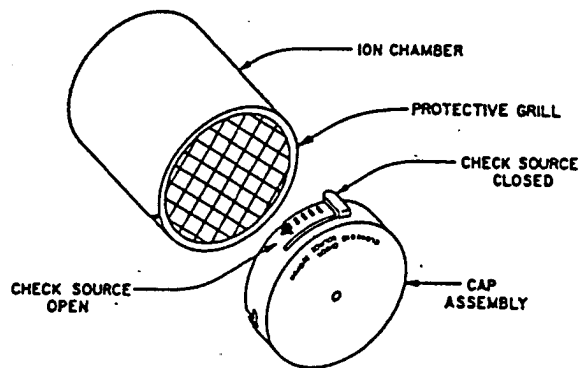

Figure 4-4. End Cap Installation and Check Source Operation.
b. Zero Adjust. Place the SM-400 in an area free of radiation. Set the Selector Switch to the 300 mR/hr position, place the check source in CLOSED position (Figure 4-4.), wait at least two minutes for warm up, rotate the Selector Switch clockwise, pausing momentarily at each step for the meter transient to subside. Observe if zero meter reading is obtained on each step. If the meter does not indicate between 0 and 0.2 mR/hr on the 3 mR/hr range, unlock the ZERO ADJ Control and adjust for a reading between 0 and 0.2 mR/hr. After adjustment is complete, lock the control.
c. Radiation Measurement Check. The Th-232 check source that is part of the End Cap Assembly provides a convenient method of checking the overall operation of the SM-400. With the Selector Switch set to the 3 position (or the 10 position if reading is greater than 3mR/hr), the meter indication must increase between 0.5 mR/hr and 5 mR/hr when the check source is placed in the OPEN position (Figure 4-4). Recalibration as described in Paragraph 5-9 must be performed if this requirement is not met.
The Ion Chamber Window can be placed in closer proximity to the radioactive source by removing the protective grill assembly. This procedure should be used only when it is required to measure radiation from a weak source. Removal of the protective grill assembly is accomplished by removing the two screws on the end of the Ion Chamber and carefully pulling the protective grill assembly out of the Ion Chamber. The mylar window is completely unprotected when the protective grill assembly is removed and extreme care must be exercised to prevent damage to the window. Refer to Figure 4-4 which shows the location of the protective grill assembly.